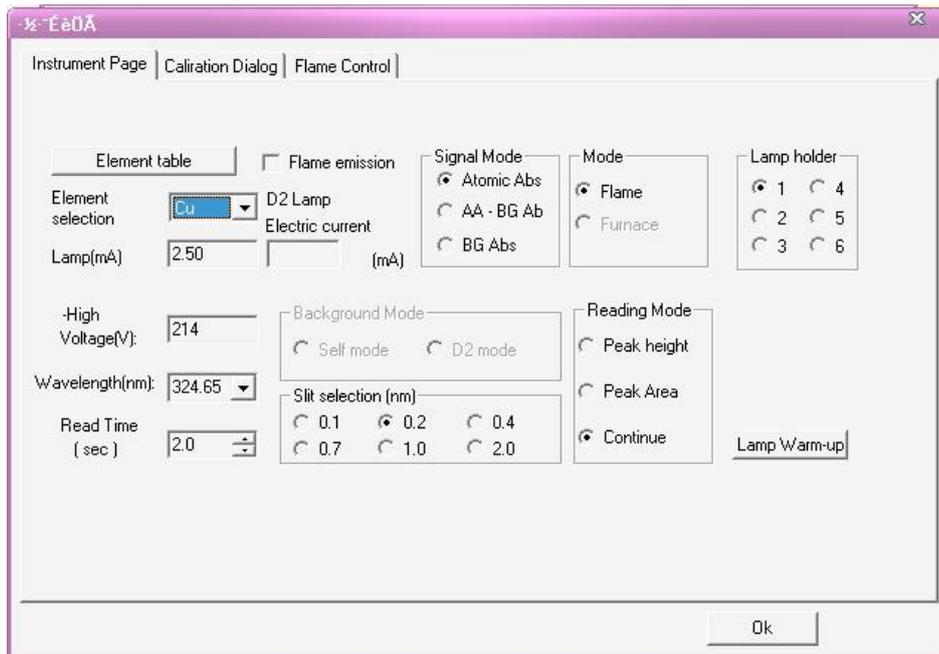

Figure 6-13
4. Press **【Method Editor】** in the “Adjustment” window, display the figure 6-13